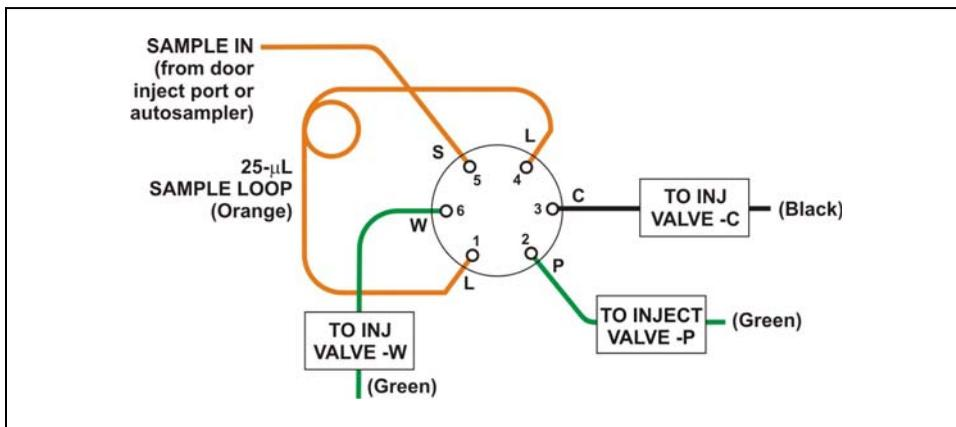

Figure 2-14. Injection Valve Plumbing
Figure 2-14 shows the injection valve connections. The injection valve is plumbed at the factory with all tubing and fittings for connection to the pump, injection port, column, and waste. A 25- μ L PEEKTM sample loop (P/N 042857) is installed between ports L (1) and L (4). Thermo Fisher Scientific offers sample loops in various sizes. If necessary, the pre-installed 25- μ L loop can be replaced with a loop that has a different sample injection volume.